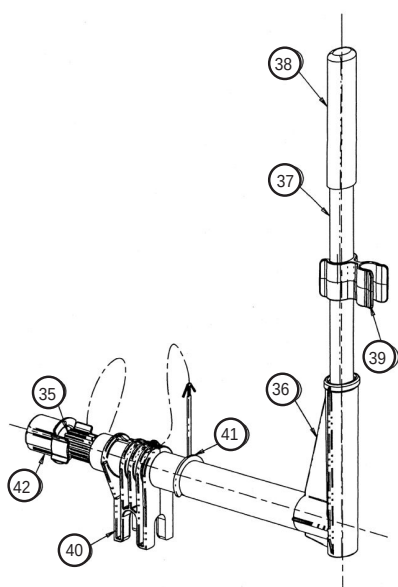

FIG. 4
1. To adjust pump handle to pumping position, remove retaining clip on bottom of tank base (fig. 4, item 41) and pull pump handle out until disengaged. Realign and insert clip.
2. To install pump handle on opposite side of sprayer, remove retaining clip on bottom of tank base and slide the pump handle out of center crank. Unsnap center crank (fig. 4, item 40) from bushing (fig. 4, item 42); move bushing to other side; turn center crank and snap back into bushing; reinsert pump handle from side and snap on clip.
3. Remove retaining clip (fig. 4, item 41) from bottom of tank base. Remove pump handle.